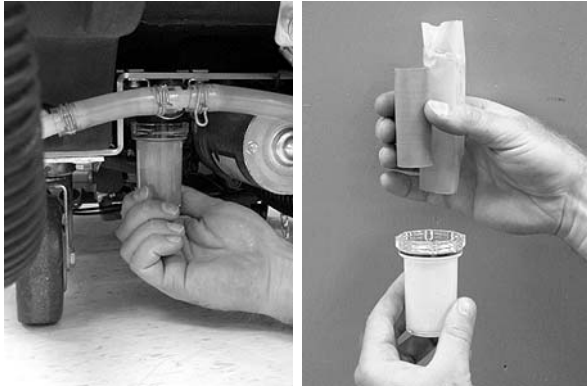

FIG. 33
1. Remove the solution tank filter from underneath the machine and rinse out the screens. Make sure the solution tank is empty before removing filter (Figure 33).